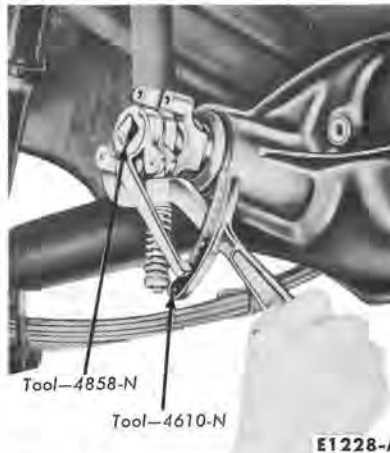

FIG. 17—Pinion Bearing Preload Check
9. Adjust the preload on used bearings to 10-16 inch pounds torque. On new bearings, adjust the preload to 17-27 inch pounds. Measure the preload with the tool shown in Fig. 17.